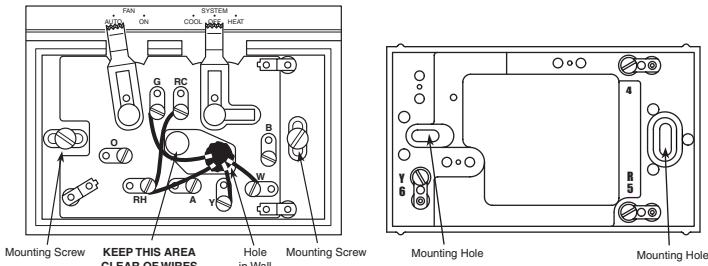

Figure 1. Thermostat subbase and wallplate
- B. Mount switching subbase: Use the screws provided to mount the subbase or wallplate to wall (see Fig. 1).
- D. Mount Thermostat Base: Gently push excess wire back into the wall opening and plug hole with a fire-resistant material, such as fiberglass insulation to prevent drafts from affecting thermostat operation. Mount the thermostat base to the subbase using the three captive screws on the thermostat base. (See Fig. 1) Tighten the screws securely. Proceed to Step #5.